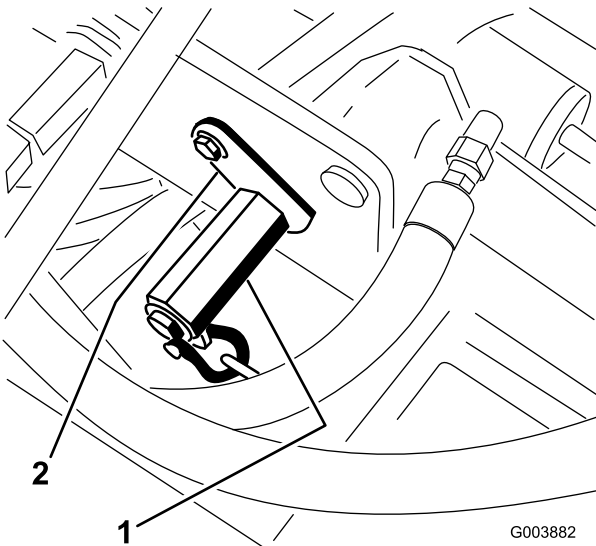

Figure 34
3. Place an open end wrench on the hex shaft of the spring bracket (Figure 34).
4. Remove the bolt and locknut securing retaining bracket (Figure 34), while rotating the hex shaft to relieve spring tension.